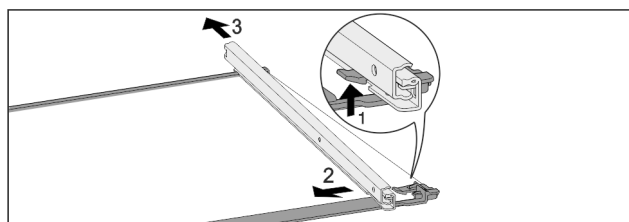

Fig. 52 Glass shelf with rails
- Push up front click-in hooks. Fig. 52 (1)
- Move the pull-out rails to the side Fig. 52 (2) and to the rear Fig. 52 (3).